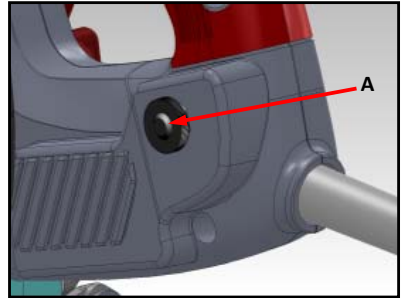

Fig.19
Under extreme overload, the current consumption may considerably exceed the permissible nominal value. In this case, overload protection prevents the motor from burning out. The saw has a reset button (A) that will restart the motor after it shuts off due to extreme overload, if the motor stops during operation, turn the ON/OFF switch to the OFF position. Unplug the saw from its power source. Wait about three minutes for the motor to cool down. Push in on the reset button and turn the switch to the on position. Refer to Fig.19